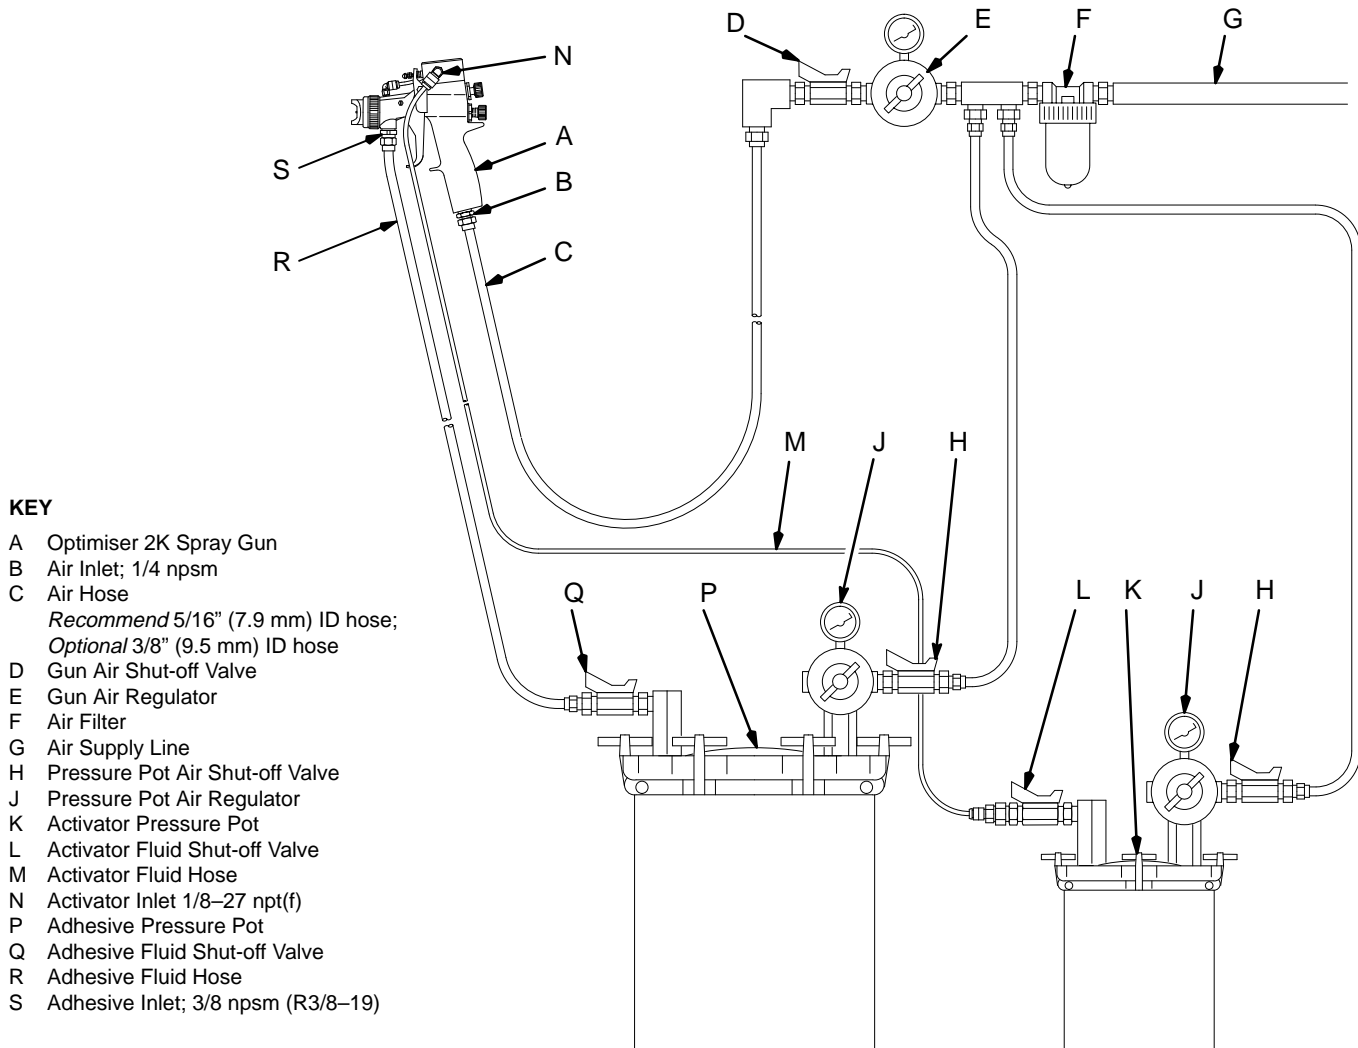
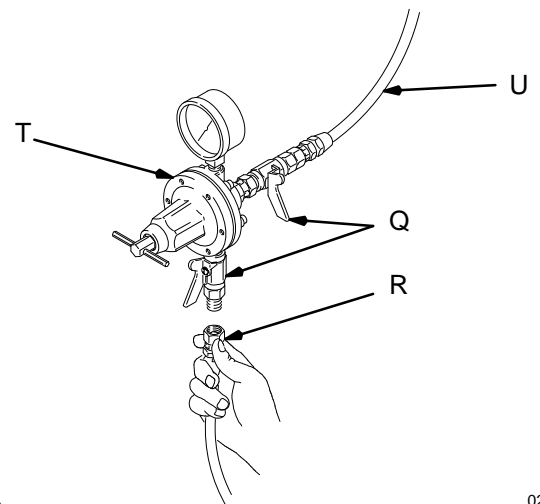

Fig. 1
Fig. 9
- Refer to Fig. 1 and see Form No. 305–591 for the accessories recommended to install the system. Consult with the fluid supplier or Graco for specific recommendations.
- The gun air line must have an air regulator (E) to control air pressure to the gun. See Fig. 1.
- If the gun air source does not have a filter, install a filter (F) on the gun air line to ensure a dry, clean air supply.
- If you are using diaphragm pumps to supply adhesive or activator to the gun(s), install a fluid regulator (T) on each gun fluid supply line to control fluid pressure to the gun(s). See Fig. 9, page 9.
- B. Connect the other end of the fluid hose (R) to a regulated fluid supply line (U—see Fig. 9) or a pressure tank (P—see Fig. 1, page 6).
NOTE: Fig. 9 shows the fluid supply line regulator (T) and fluid shut-off valves (Q).